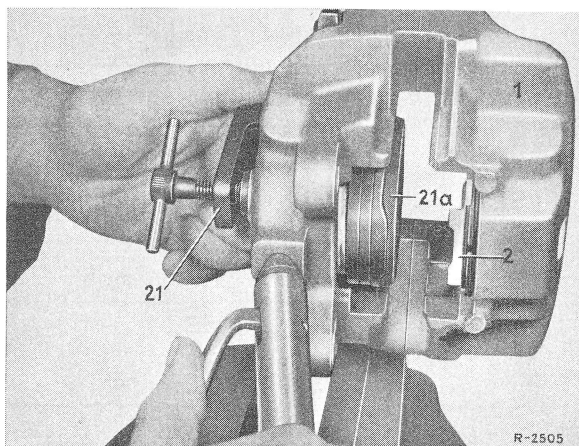

Fig. 6
5 Position clamping device (21) in caliper (1) in such a manner that the rubber plate seals the bore. Then press second piston out of caliper (Fig. 6).